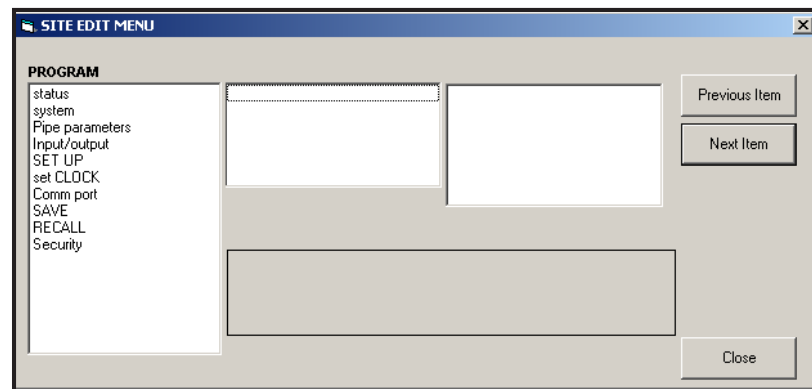

Figure 37: Site Edit Menu Window
5. To open a particular menu, double-click on that menu on the tree. For example, if you double-click on the Site Edit Menu, a window opens similar to Figure 37.